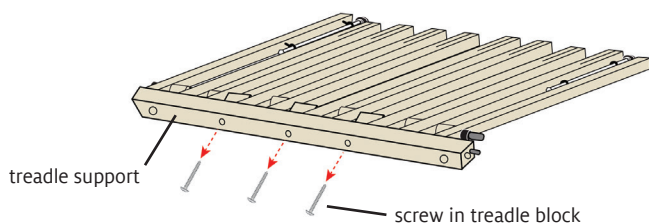

FIGURE 8: REMOVE THE TREADLE BLOCKS
14. Remove the screws attaching the treadle blocks (**TB**) to the treadle support, as shown in Figure 8. Set aside the treadle support.